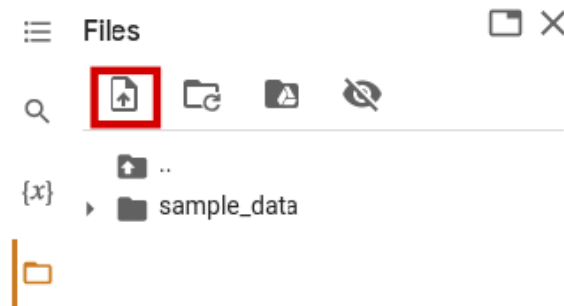

Figure 5: Click the file upload icon to upload your files.
- (b) **Implement Neural Network:** Next you will build a neural network to predict landmark heading directions from visual observations. To do this, it will be easiest to work in the provided colab notebook. Go to colab and upload `train_observation_model.ipynb`. Then click the folder icon next to the notebook shown in Figure 5 to open the file browser of your colab runtime. From here, upload `observation_model.py`, `hw1_train_dataset.zip` and `hw1_test_dataset.zip`.